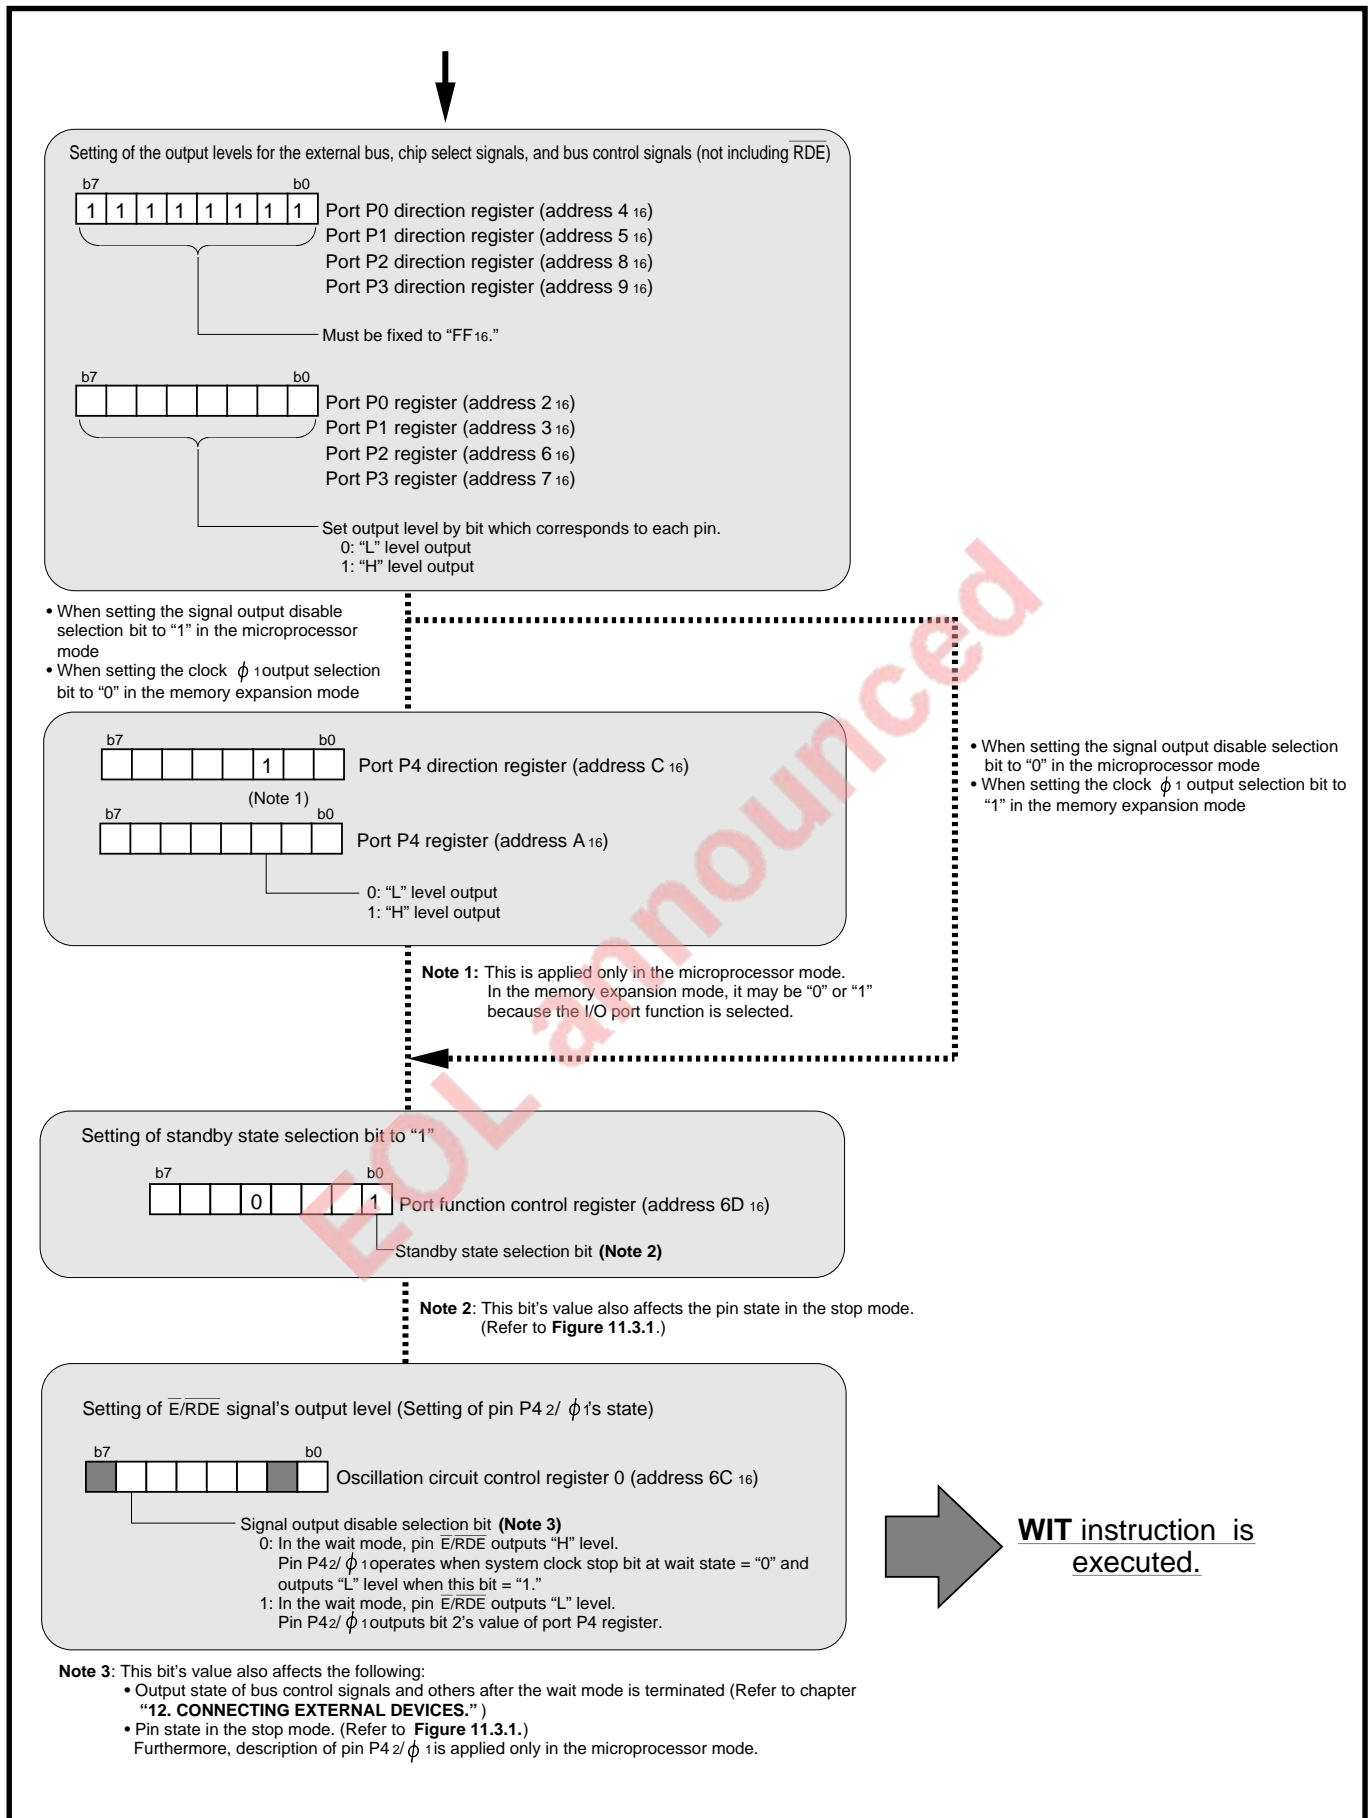

Fig. 11.4.1 Output level setting example in wait mode (Memory expansion or Microprocessor mode)
- **Table 11.4.2 and Figure 11.4.1**
Standby state selection bit\*1: Bit 0 at address 6D16 (Refer to **Figure 11.4.1**.)